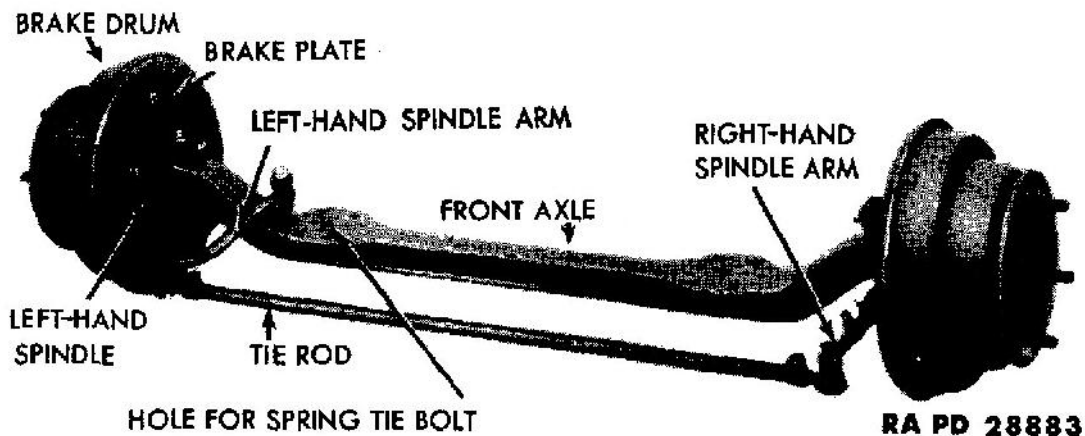
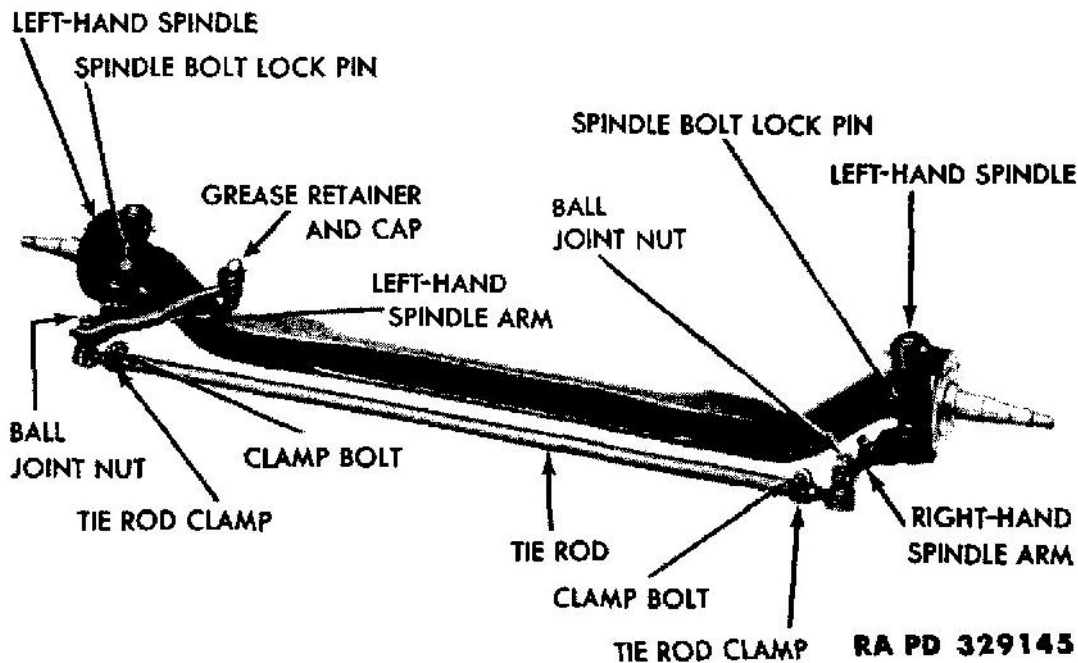
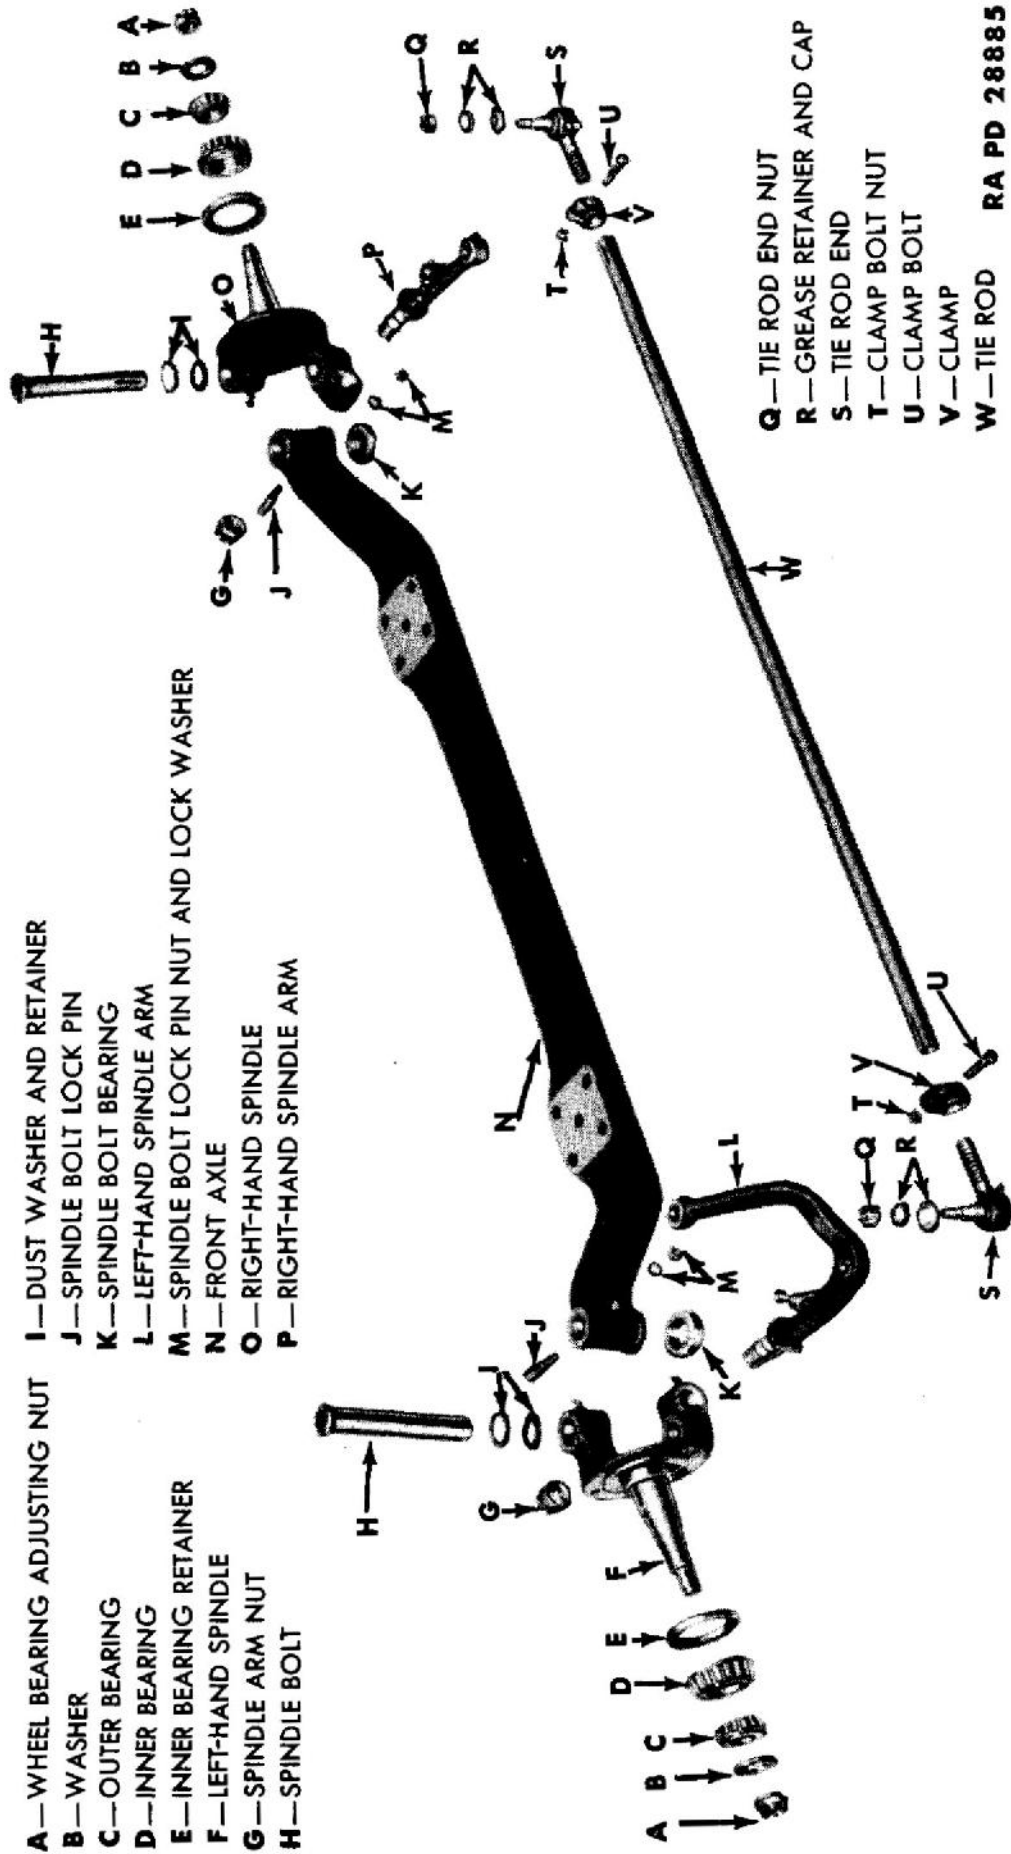

Figure 56 – Front Axle Hub and Drum Assemblies
Figure 57 – Front Axle, Spindles, and Tie Rod Assemblies
Figure 58 — Front Axle, Spindles, and Tie Rod — Disassembled
a. The front axle is a steel forging of the I-beam type with spindles secured by spindle bolts at each end (fig. 56). The weight of the vehicle on the axle is supported by a spindle bolt thrust bearing (fig. 58) at each end of the axle.
a. **Removal.** Raise the front of the vehicle. Remove the front wheels and drums (par. 127 a (1)). Disconnect the hydraulic brake hose from the bracket (fig. 71) on the frame at each brake (par. 137 a). Remove the four bolts which hold the brake plate to each spindle. Remove the baffle and brake plate assembly from each spindle. Remove the nuts from the two U-bolts which secure the springs to the axle at each front spring. Remove the axle assembly (fig. 57) from the vehicle. Remove the tie rod (par. 111). Remove the spindle assemblies from each end of the axle (par. 112).
111. TIE ROD (fig. 57).
b. **Adjustment (Toe-in).** Usually the toe-in of the front wheels will not change except for some mishap that bends either one, or both, of the spindle arms, or the tie rod. The toe-in of the front wheels is correct when, after the vehicle has been pulled forward to take up any looseness, the distance between the front of the wheels is $\frac{1}{16}$ inch less than the distance between the rear of the wheels. This setting is obtained by adjusting the length of the tie rod. To adjust the tie rod length, loosen the clamp nut (fig. 57) at each end of the rod, and turn the rod until $\frac{1}{16}$ inch toe-in is obtained. Tighten the clamp nuts, and install cotter pins.
a. **Removal.** Remove the wheel and drum assembly from the spindle (par. 127 a (1)). Remove the brake plate assembly (par. 110 a). Remove the nut which secures the spindle arm to the spindle and drive the arm out of the spindle (fig. 58). Remove the nut from the spindle bolt lock pin (fig. 58) and drive out the pin. Remove the spindle bolt either by driving out or using a suitable puller. Remove the spindle.
b. **Installation.** Place the spindle in position on the axle as shown in figure 57 with the thrust bearing (fig. 58) between the bottom of the axle and the spindle. Install the spindle bolt and secure it in place with the lock pin. Install the lock washer and nut on the lock pin. Install the spindle arm on the spindle and secure it with a lock washer, nut and cotter pin. Install the brake plate assembly (par. 110 b). Install the wheel and drum assembly (par. 127 a (2)).